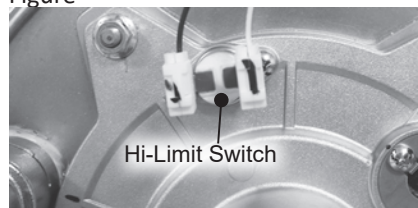

Figure 27 - Hi-Limit location
- 4 Locate the burner door hi-limit on the burner assembly as shown in Figure 27. Disconnect the two (2) wire leads (labeled HI-LIMIT 1) from the hi-limit assembly and route them inside the water heater cabinet for ease of access to hi-limit. See Figure 27. Figure